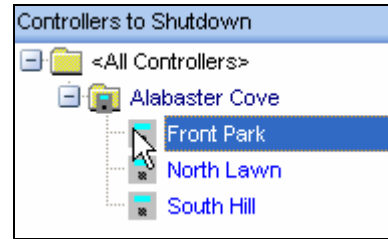

Figure 14.0.3
2. Select a Site(s) or Controller(s) to convert to Winter Shutdown (Figure 14.0.3).